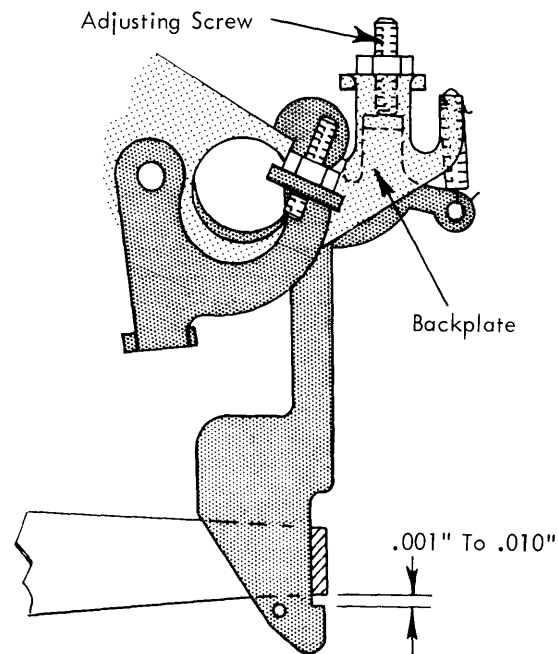
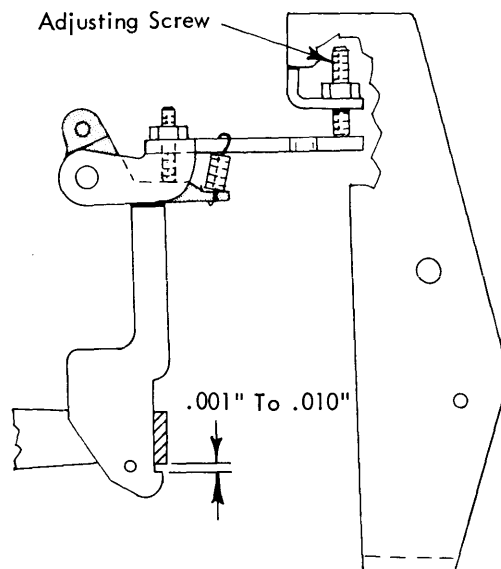

FIGURE 141. Carrier Return Latch Height Adjustment (721)
FIGURE 142. Carrier Return Latch Height (723 And 725)
1. Carrier Return Latch Height - With the carrier return/index cam at rest, adjust the carrier return latch height by the adjusting screw on the backplate so that the latch will pass under the cam follower by .001" to .010" when it is operated to the rear. (For Model 721, see Fig. 141. For Model 723 or 725, see Fig. 142.)